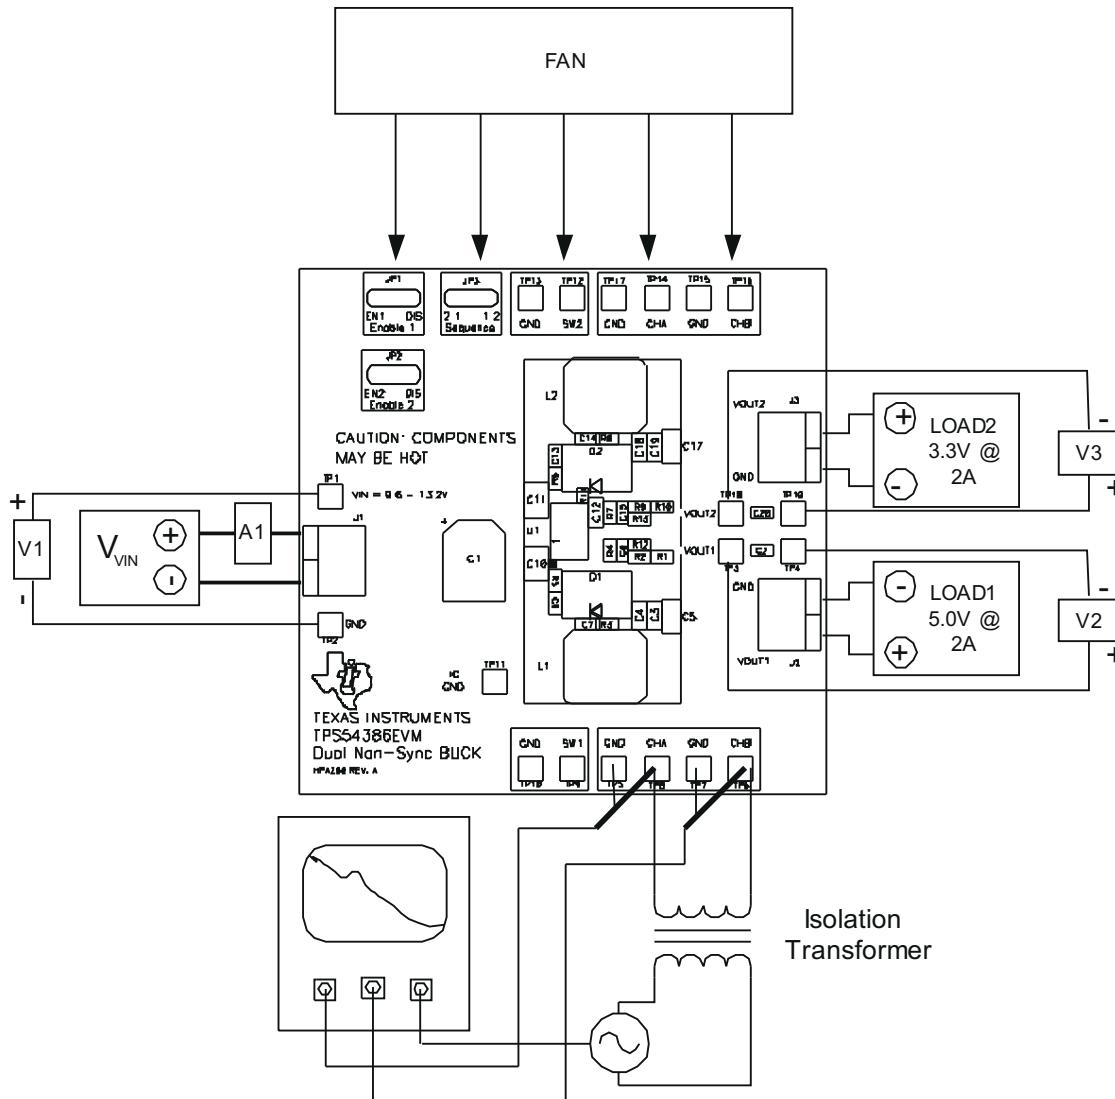

Figure 4-3. Control Loop Measurement Setup
1. Connect 1 kHz to 1 MHz isolation transformer to TP6 and TP8 as shown in Figure 4-3.
2. Connect input signal amplitude measurement probe (Channel A) to TP8 as shown in Figure 4-3.
3. Connect output signal amplitude measurement probe (Channel B) to TP6 as shown in Figure 4-3.
4. Connect ground lead of Channel A and Channel B to TP5 & TP7 as shown in Figure 4-3.